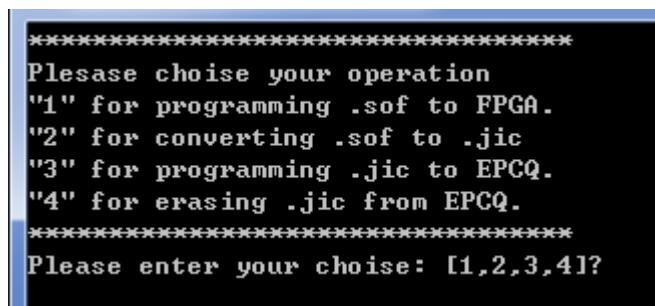

Figure 5-1 Batch file for download FPGA and EPCQ
- There is a demo_batch folder in the project. It is able to load the bit stream into the FPGA , programming or erasing .jic file to EPCQ by executing test.bat file as shown in the **Figure 5-1**.If user want to download the new design into the EPCQ, the easy method is to copy the new .sof file into the demo_batch folder and Execute the test.bat. Select the option “2” to covert the .sof to .jic firstly. Then using the option”3” to program .jic file into EPCQ.